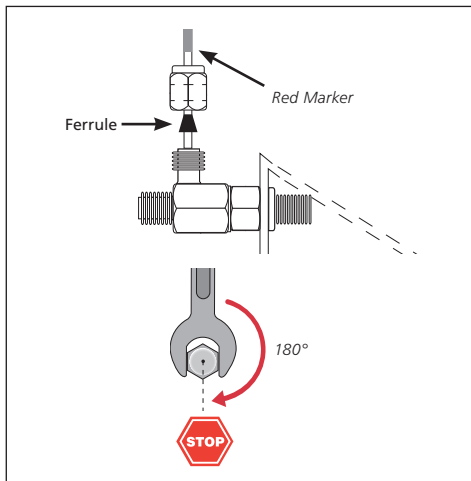

Figure 5.
19. Connect the 1/16" stainless steel tube (from the BackFlush control unit) to the side arm of the BackFlush tee using the 1/16" SilTite™ nut and ferrule supplied in the BackFlush kit. Be sure to take note of the orientation of the ferrule as shown in Figure 5.